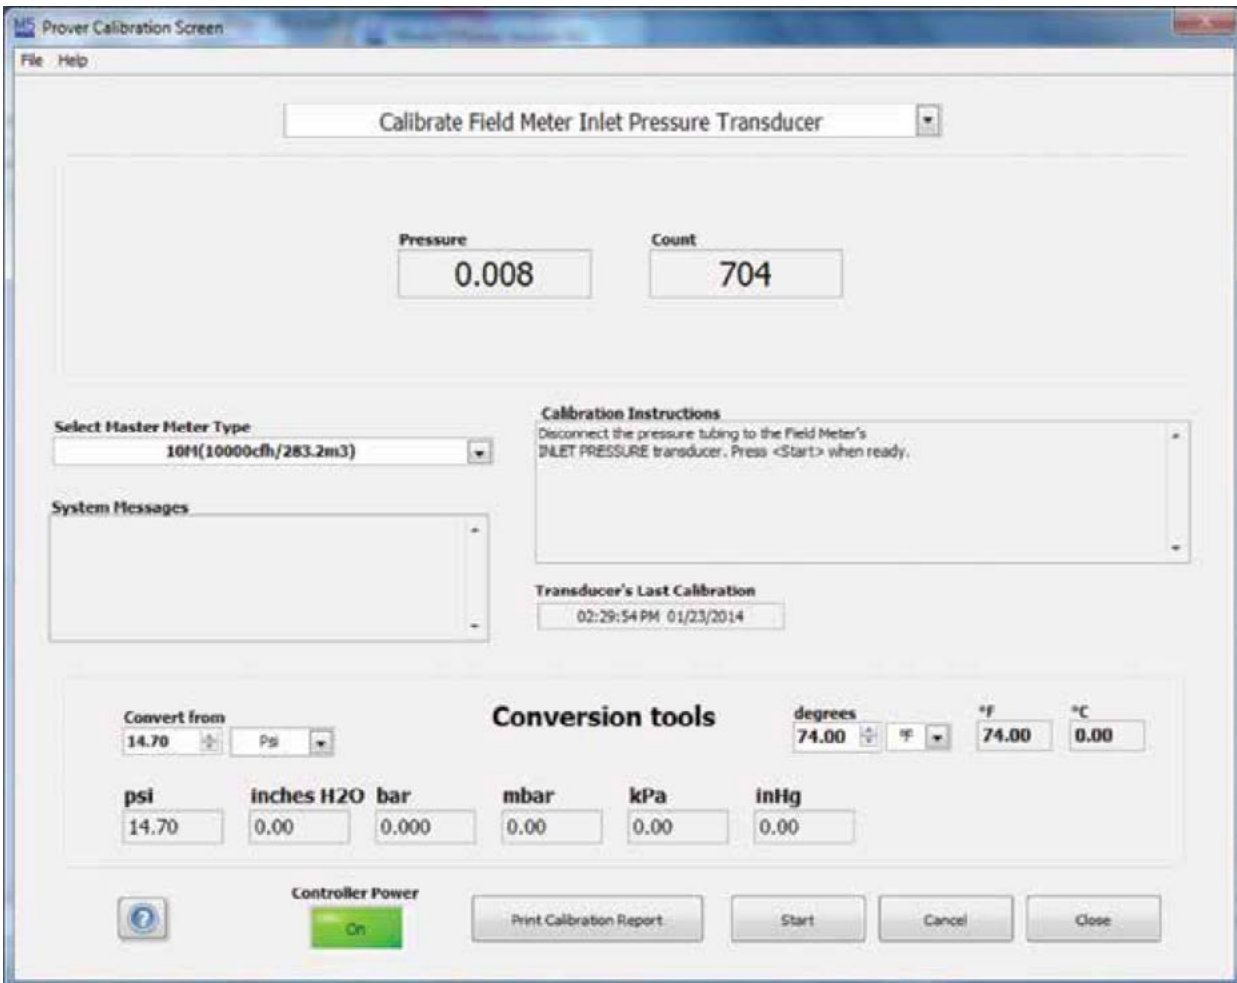

Figure 30: Select Calibrate Field Meter Inlet Pressure Transducer
1. From the Prover Calibration Screen, select the pull down arrow and click “Calibrate Master Meter Inlet Pressure Sensor Transducer.” Refer to Figure 30.